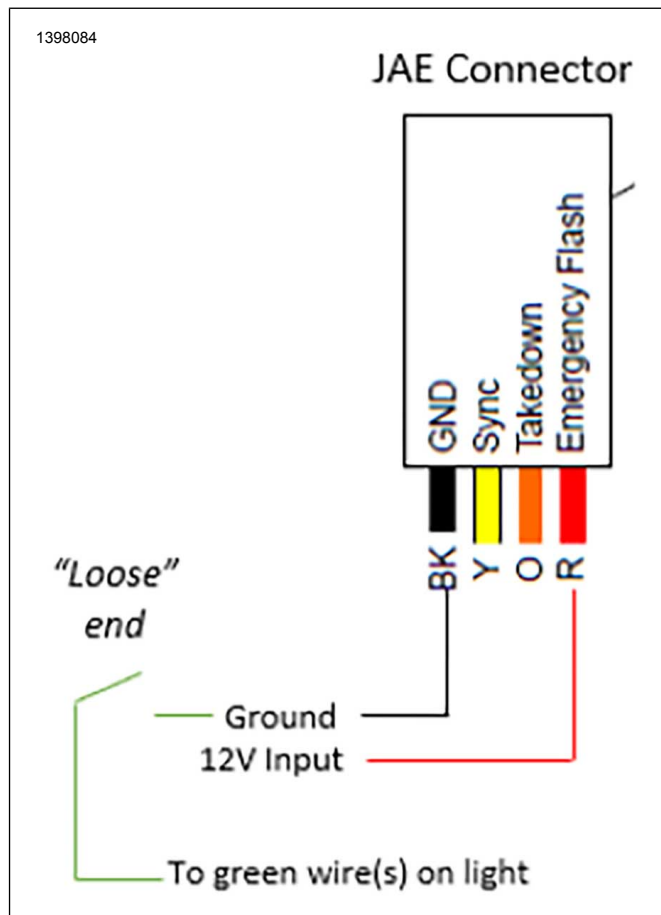

Figure 9. Color Programming Setup
1. See Figure 9. Connect 12V power source to light array (requires dealer supplied wire).
2. See Figure 9. Strip ends of GREEN wires on light.